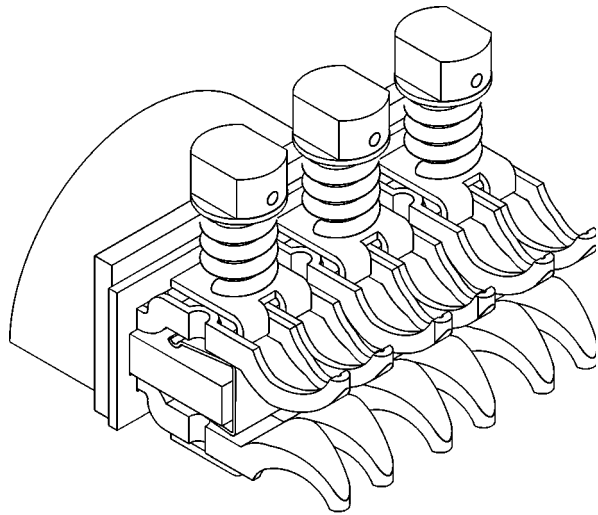
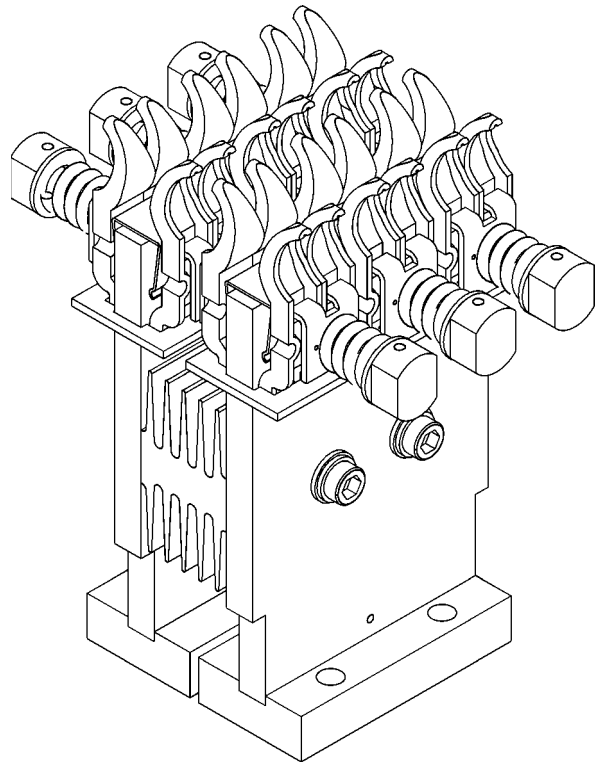

Figure 7-1 Lower primary disconnect assembly.
Figure 7-2. Upper primary disconnect outer pole assembly.
Primary disconnect assemblies are available in two configurations for the upper and lower terminals. Each pole on the lower disconnect requires two assemblies, illustrated in Figure 7-1 (one half of one pole shown). Each pole on the upper disconnect requires two assemblies and one inner heat sink, illustrated in Figure 7-2 (completed pole assembly shown) with two additional outer heat sinks on the center (B) pole.